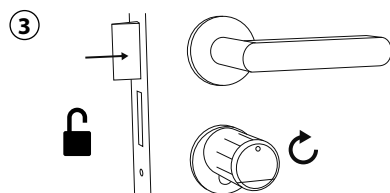
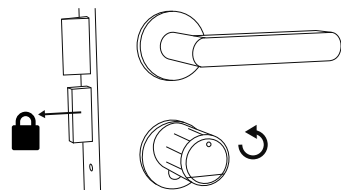

Fig. 29
Fig. 30
- 3 When the number combination entered is correct, the cylinder status symbol (⊙) will illuminate and the door can be unlocked (Fig. 29) or locked (Fig. 30).